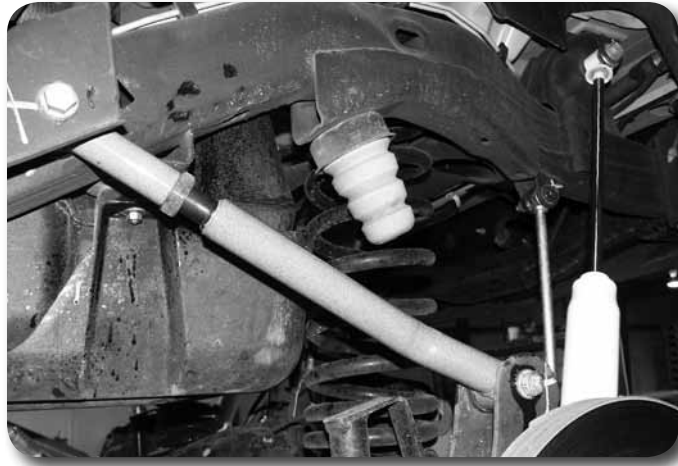

Figure 40
13. Ensure the axle is well supported. Working on one side of the vehicle at a time, remove rear upper control arms. Adjust length of new rear upper control arms to 17-3/4". Install arms with new bushings sleeves 3/4" O.D. x 2" long, and factory hardware. Do not tighten hardware at this time. **Figure 40**